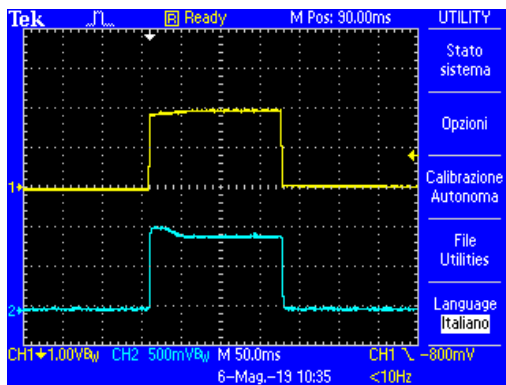

Fig. 6a
- Check that the resulting values are correct respect values in the table below and then check the wave-length by comparing it to the typical wave-lengths shown in figures 6a (60 kV) and 6b (100 kV).